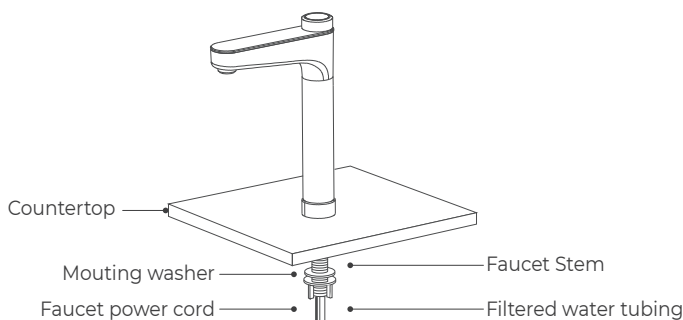

Figure 7
- a. Insert the faucet stem, power cord and filtered water tubing into the hole on countertop(**Figure 7**).